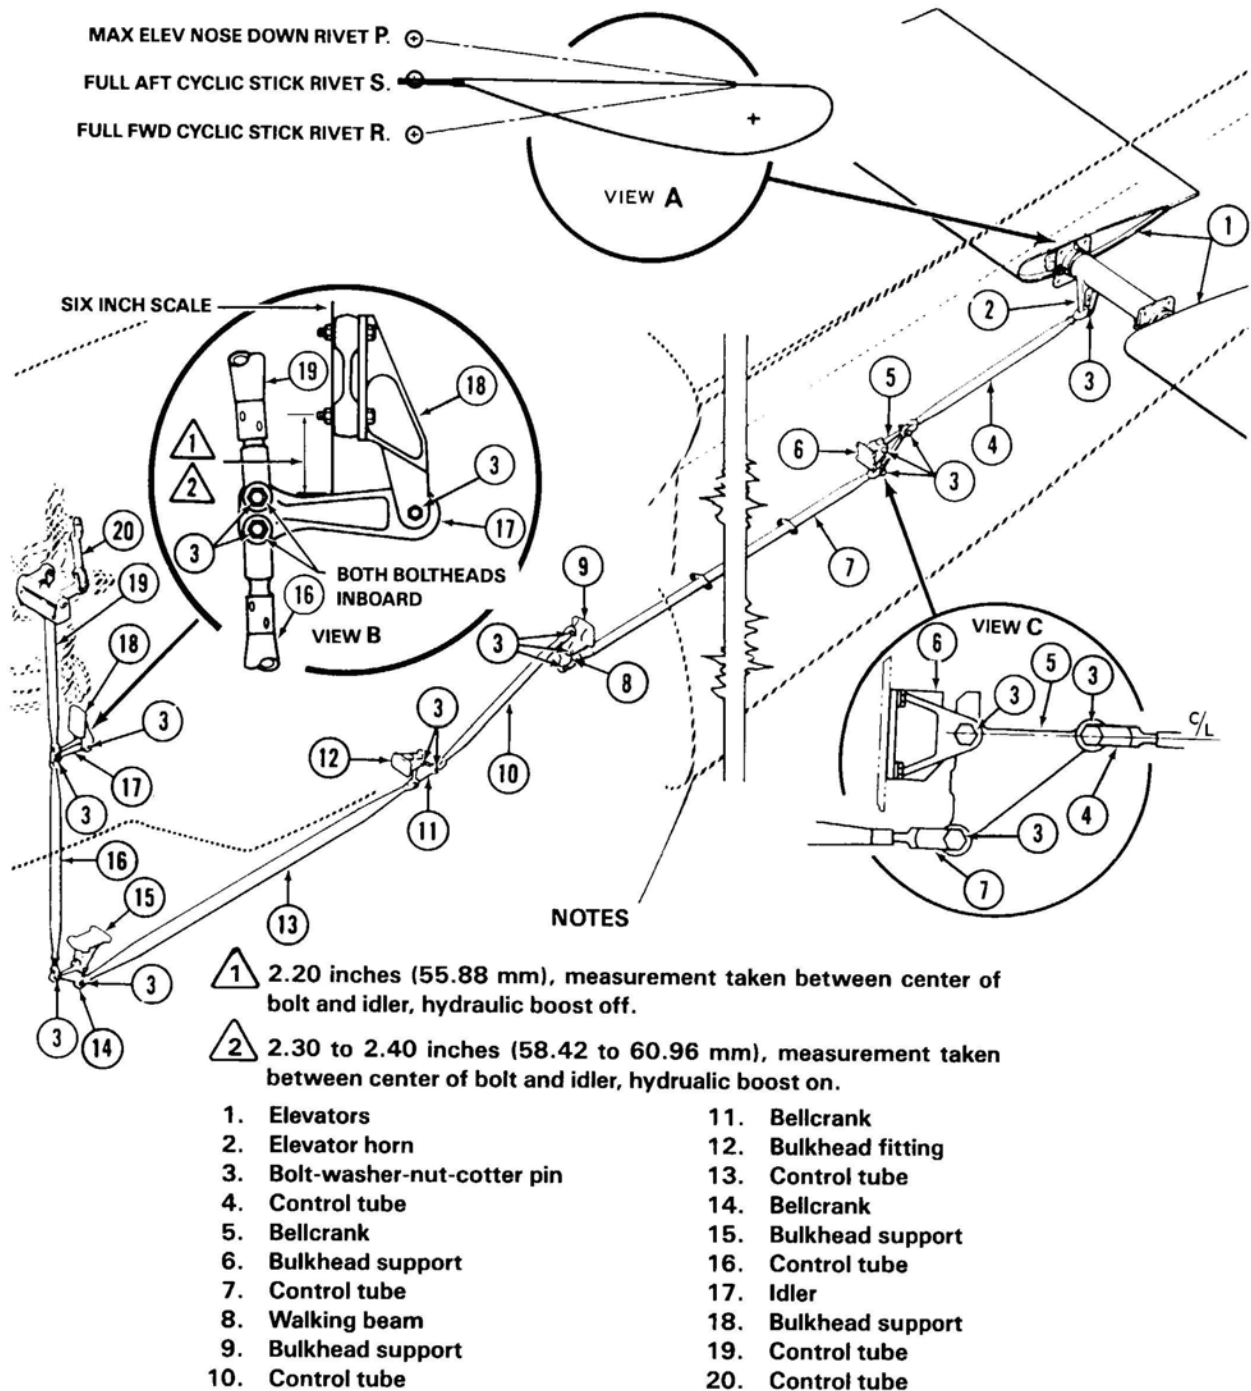

Figure 67-8. Synchronized Elevator Controls Rigging
The following shall be accomplished after installation of all bellcranks and nonadjustable control tubes (20, 13, 7, and 10, Figure 67-8) and with swashplate in position shown on Figure 67-4.
67.1.10.1.2 Position cyclic hydraulic cylinder control valves to top of travel. Adjust and connect tube (19, Figure 67-8) to obtain dimension of 2.20 in. (55.88) from top surface of idler (17) to centerline of lower bolts in idler support (view B).
67.1.10.2.3 Position idler (17, Figure 67-8, view B) to 2.30 to 2.40 in. (58.42 to 60.96 mm) dimension as shown. Adjust control tube (19) to fit and install.